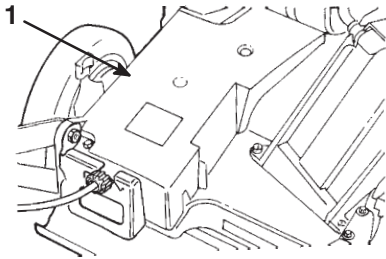

Figure 26
2. Remove the bolts that secure the belt cover (Fig. 26) to the lawn mower housing.